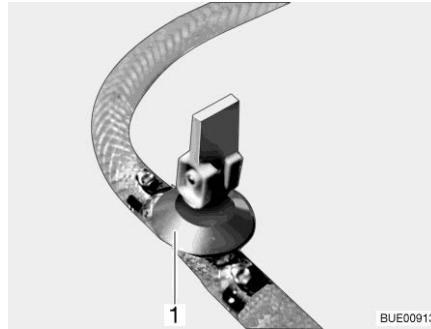

Fig. 192 Drain cock (with rocking lever)
- Close all drain cocks. In order to do this, position the rocking lever of the drain cock (Fig. 192,1) horizontally.